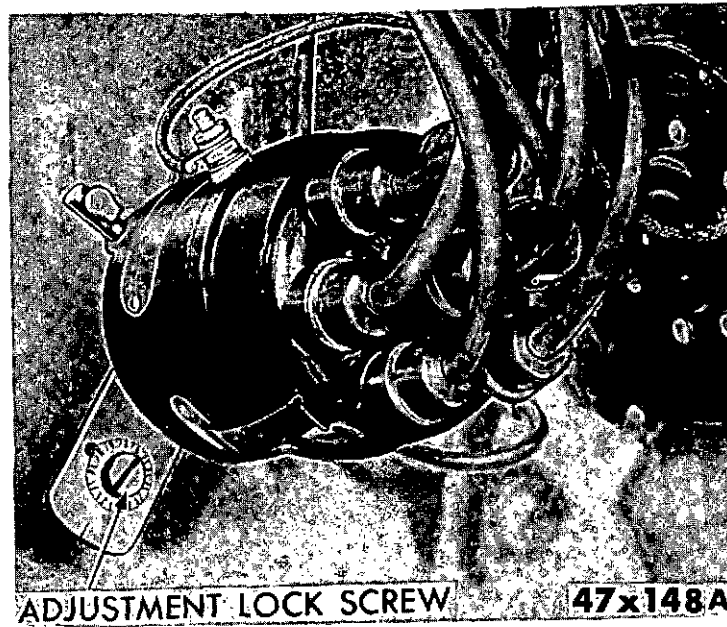

Figure 52 — Ignition Timing Adjustment (Typical)
(6) Loosen distributor clamp screw (Figs. 52 and 53) and rotate distributor housing so that specified timing mark and pointer are in alignment. (Moving distributor housing against shaft rotation, advances timing and with shaft rotation, retards timing).
(7) Tighten distributor clamp screw after timing has been set and recheck timing adjustment with power timing light.